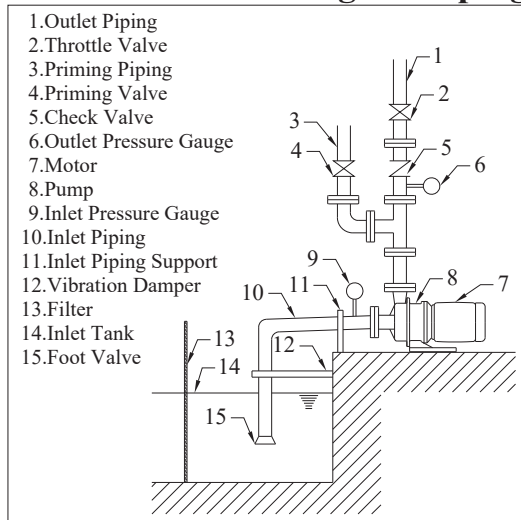
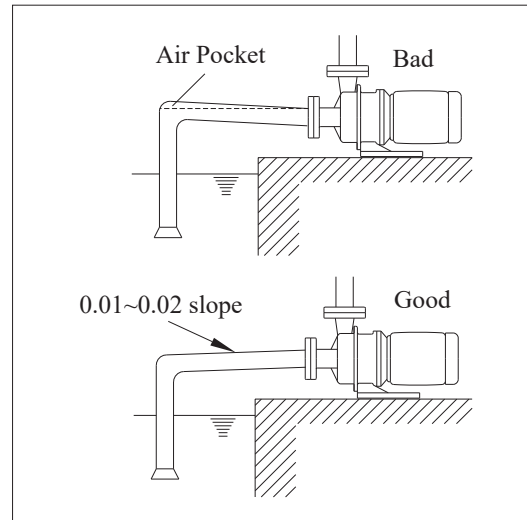

Fig. 4.1
Fig. 4.2
<p>General requirements</p> <p style="writing-mode: vertical-rl; transform: rotate(180deg);">Suction System</p>	<p>(1) Suction condition must satisfy $NPSHa > NPSHr + 0.5$ m.</p> <p>(2) Minimize suction piping loss by using straight and short piping.</p> <p>(3) The piping should be supported adequately (see Fig. 4.1). The pump should not be used for piping support.</p> <p>(4) Effects of temperature changes should be factored into the support structure design to prevent thermal stress buildup.</p> <p>(5) Suction piping and connectors should be hermetically sealed to prevent drawing in air during operation.</p> <p>(6) The suction piping should not be allowed to collect air. There should be a 0.01~0.02 upward slope towards the pump (see Fig. 4.2). —</p> <p>(7) There should not be any elbows within 5D (5 times diameter) distance from the pump opening. The elbow closest to the pump suction should be a long radial elbow.</p>
Foot valve	Install a foot valve if negative suction or upward suction is used (see Fig. 4.1).